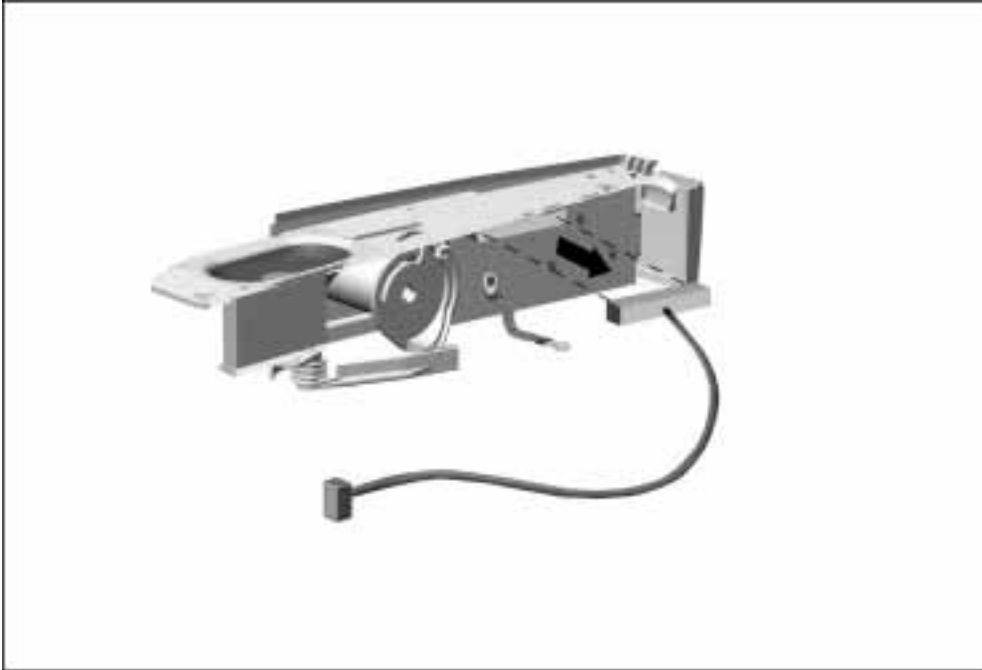

Figure 5-40. *Disconnecting the Control Panel Cable*
9. Disconnect the control panel cable from the control panel assembly (Figure 5-40).